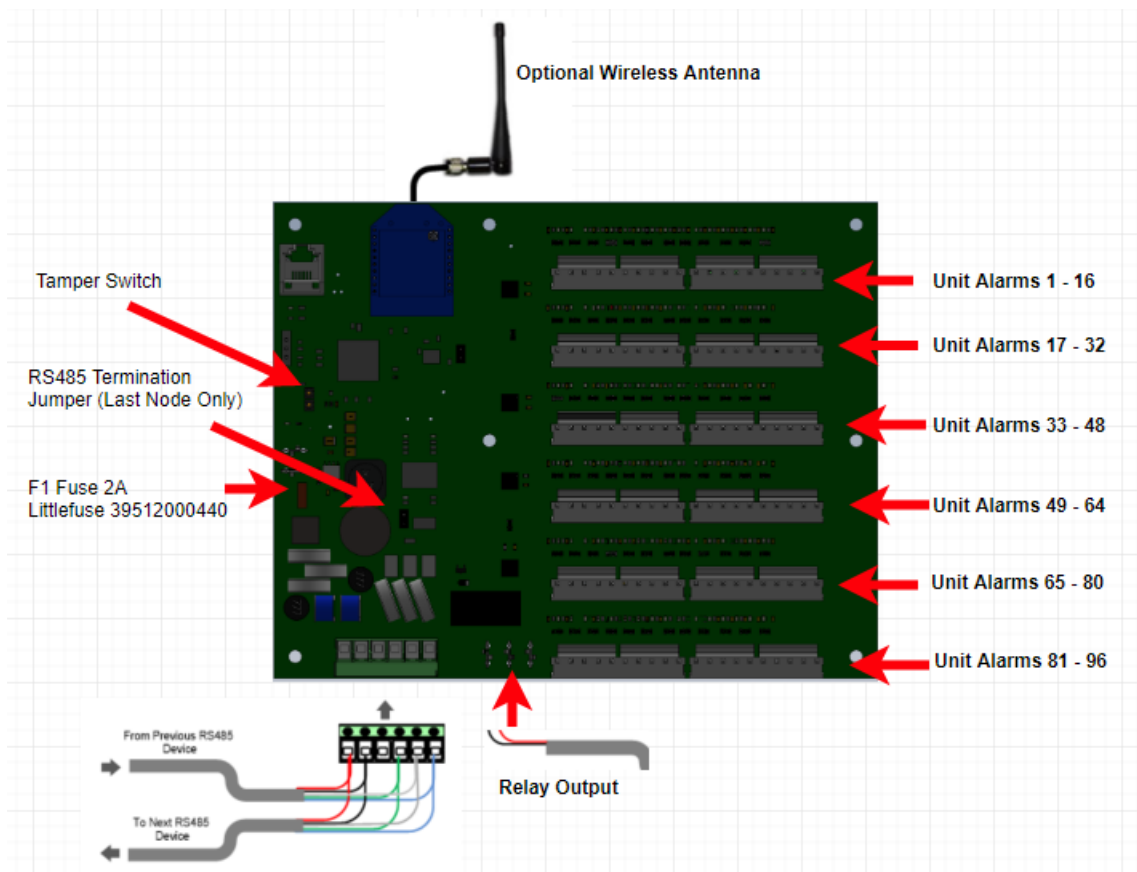

Figure 4
Power and RS485 data communication is done with a single connector and should be the last connector to be attached as it may carry active power. We recommend that power and RS485 data communications be via a single 18 AWG, 4-conductor shielded cable. The shield drain wire can be used as the RS-CMN common wire. Do not connect more than two (2) RS485 cables to one PCB. All PCBs shall be connected as an inline chain beginning with the Gateway and ending with the last device. The last device shall have a "termination" jumper installed as shown in Figure 4. All other devices shall have this jumper omitted.